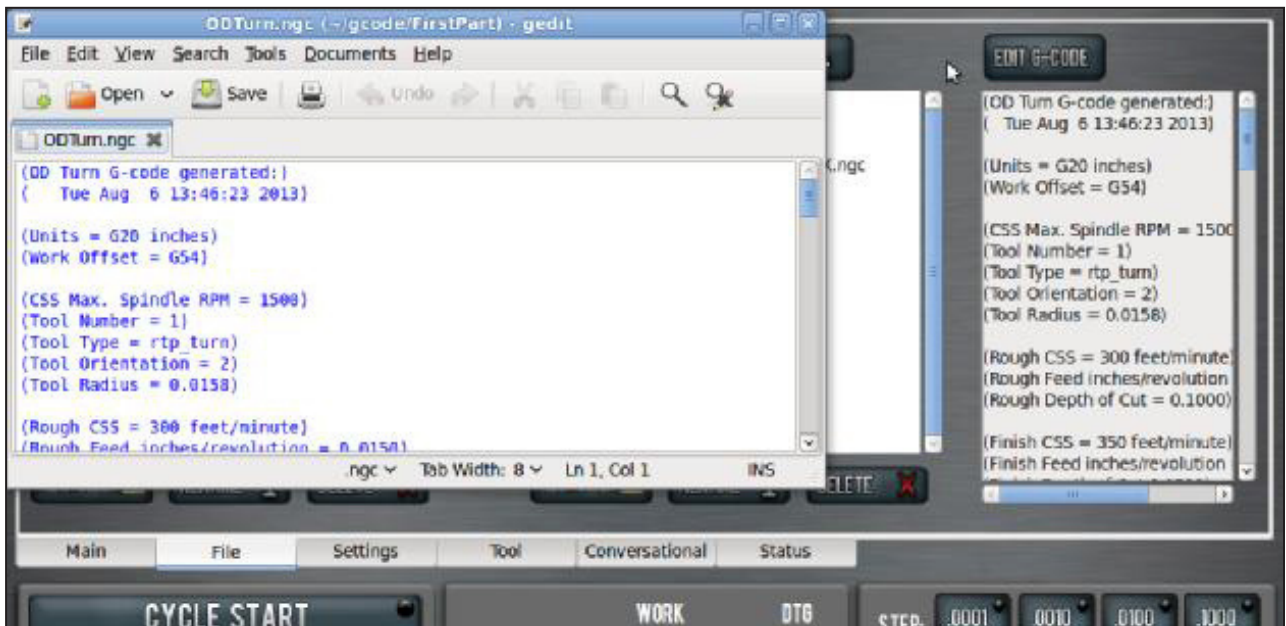

Figure 5.12
2. A text editor will open the file in a new window for editing the contents of the file. Make the appropriate changes to the file and click *Save* (see **Figure 5.12**).